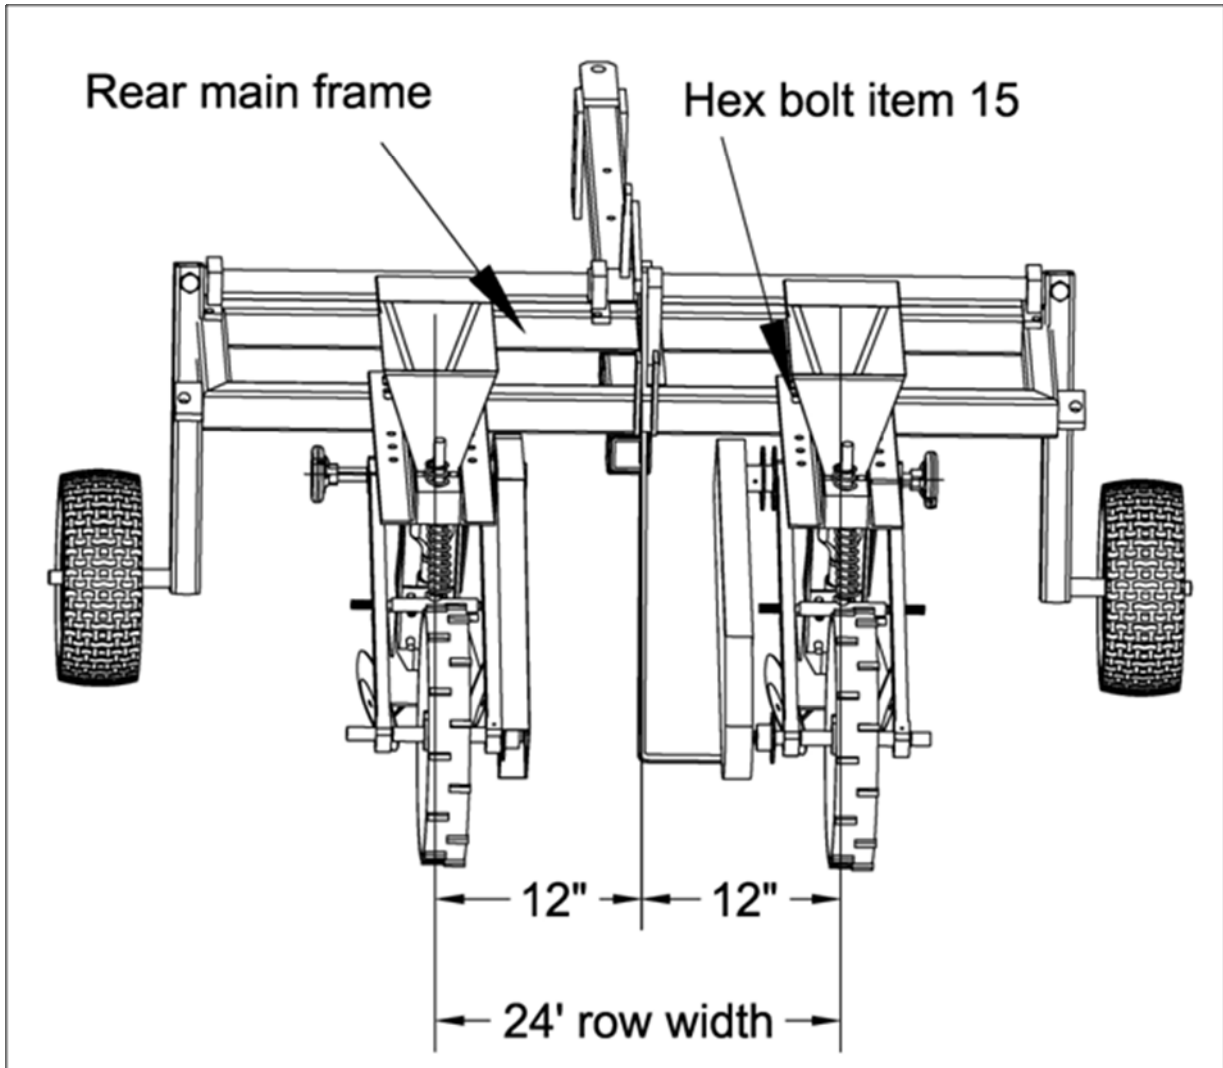

Figure 11
1. To adjust the row width loosen the 4 hex bolts item 15, that fasten the planter assembly to the rear frame assembly. Measuring from the tongue (middle of frame) move the planter in or out to $\frac{1}{2}$ the row width. I.e. 24" row width measures 12" from tongue to middle of planter. Repeat for opposite planter assembly. See figure 11.